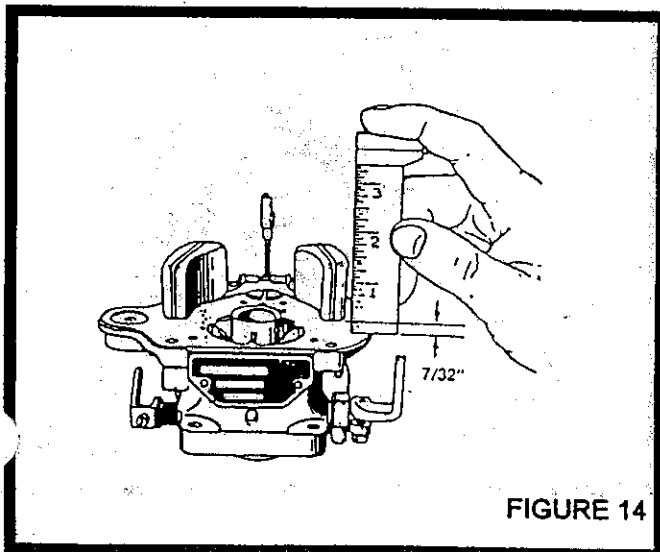

FIGURE 14
- 56) Insert the float lever shaft (4) through the float bracket and float lever hinge and safety in place with cotter pin (3). Bend the ends of the pin all the way back.
- 57) **CAUTION:** Insure that the float shaft is free to rotate and that the float and valve movement is not restricted between the fully open and fully closed position of the float valve. This is approximately 1/2-inch of float travel measured at outer end of float. The float setting is established as shown in Figure 14 with 7/32" clearance between the float and gasket measured near the outer end of each float.